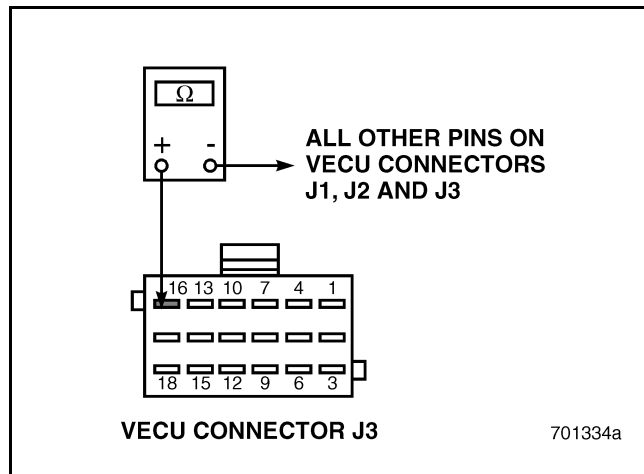

Figure 720
3. Check for continuity between VECU connector J3 pin 16 and all other pins on VECU connectors J1, J2 and J3 (see Figure 720).